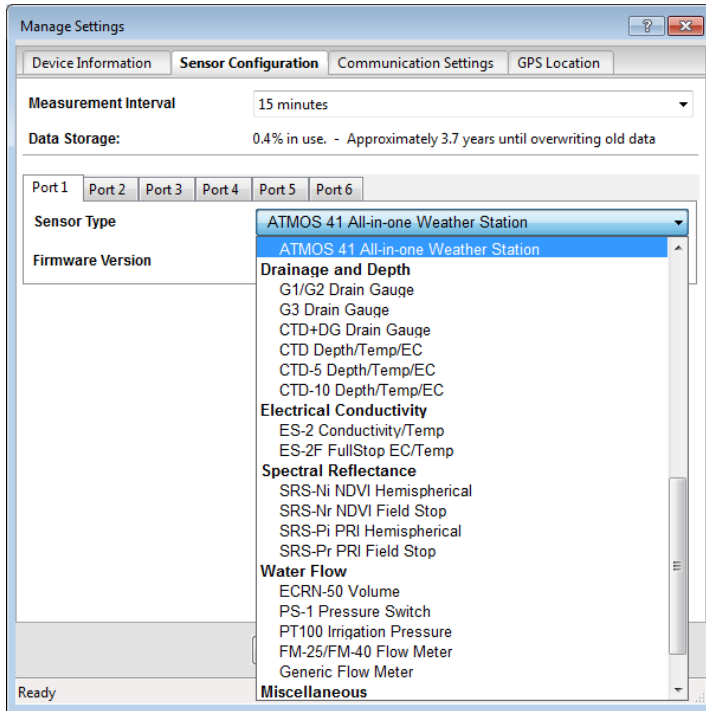

Figure 5 Select Sensor Type dropdown
- Ensure the correct sensor type is listed in each port tab (Figure 5).